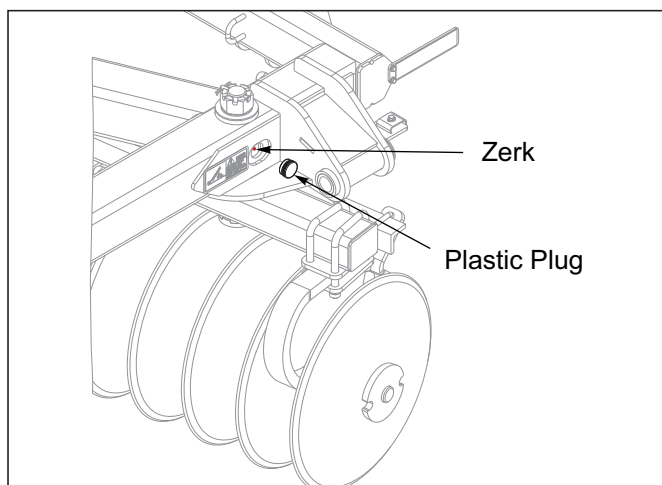
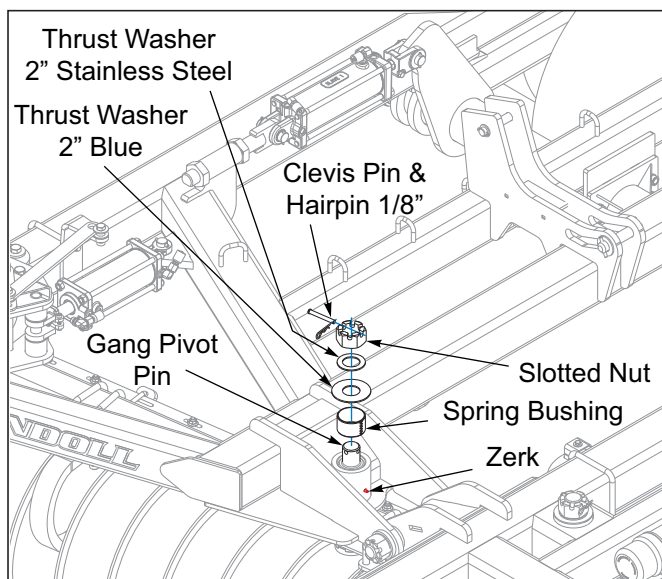
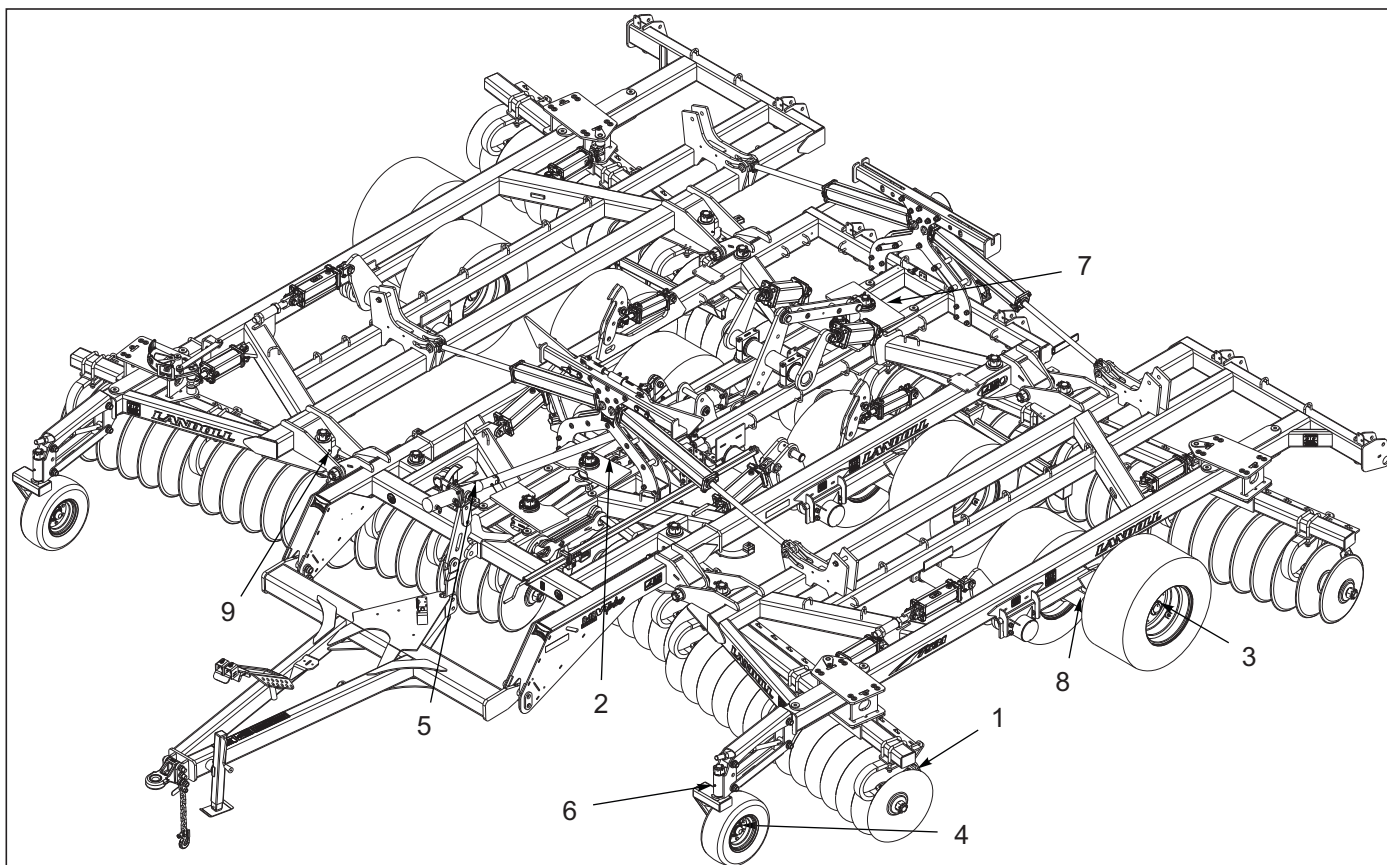

Figure 5-3: Center Frame Plastic Plug
Figure 5-4: Gang Pivot Pin
Figure 5-7: Lubrication Schedule
1. A proper maintenance schedule will insure a long operating life and peak performance. Performing the following lubrication will ensure maximum operating life of the 7531 **See Figure 5-4 and See Figure 5-7.**
7. On (4) center frame disc gang pivots the plastic plugs will need removed to grease the pivot pins, annually **See Figure 5-4**. Grease until it purges out the top or bottom. Replace plastic plugs to keep contamination out.
8. Remove the 1/8 hairpin and clevis pin, annually to check to see if slotted nut is still tight **See Figure 5-4**, if it is real loose remove pin and check for wear on pin or spring bushings. Replace pin or bushings if needed. If nut is still tight, re-install the clevis pin and 1/8 hairpin. Grease all pivot points **See Figure 5-3**.